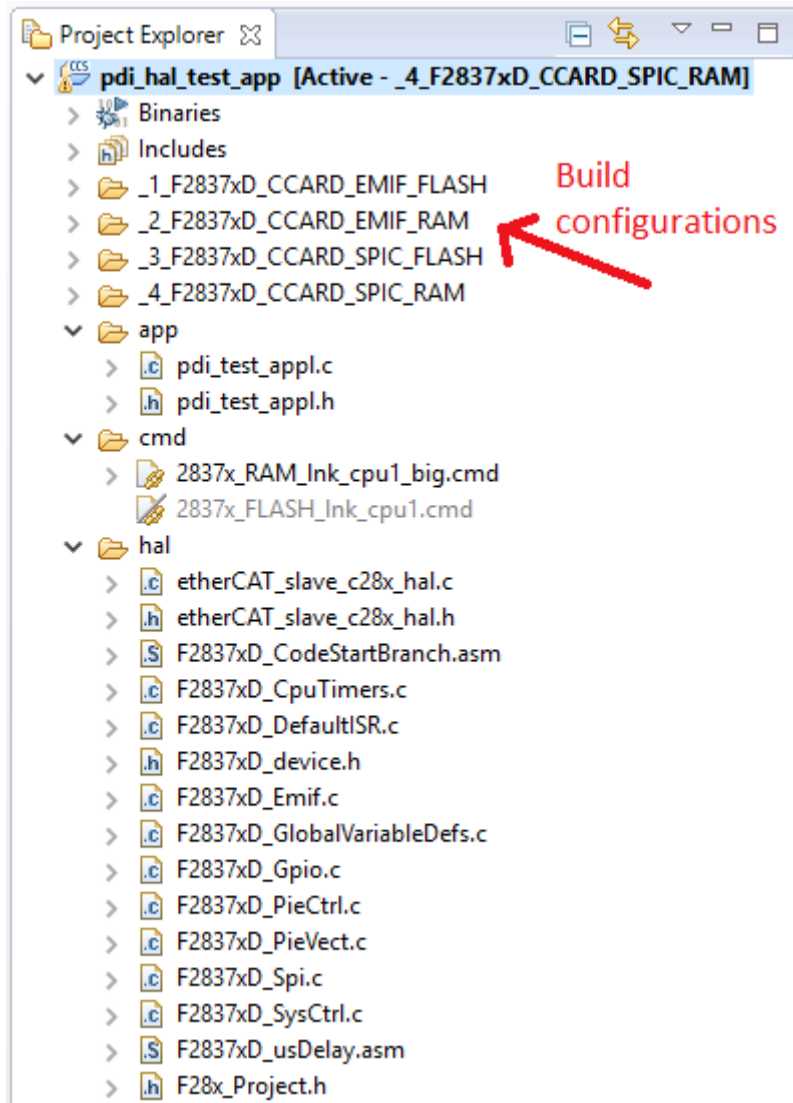

Figure 33. EtherCAT HW Abstraction Layer Project
2. Right click on the project and set the desired active build configuration. Figure 33 shows the available configurations, which provides options for program storage (flash and RAM) and interface type (EMIF, SPI-C):